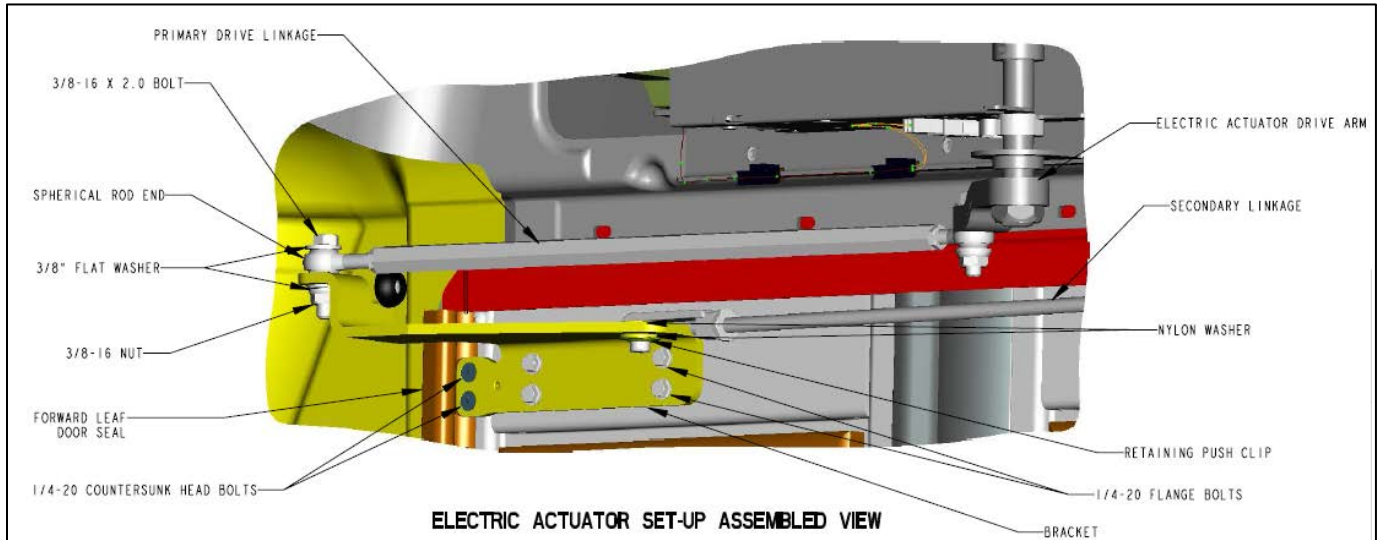

Figure 7: Electric Door reassembled with new bracket
- 20) Re-assemble the electric door to the new bracket using the 3/8" hardware removed earlier. See **Figure 7**.